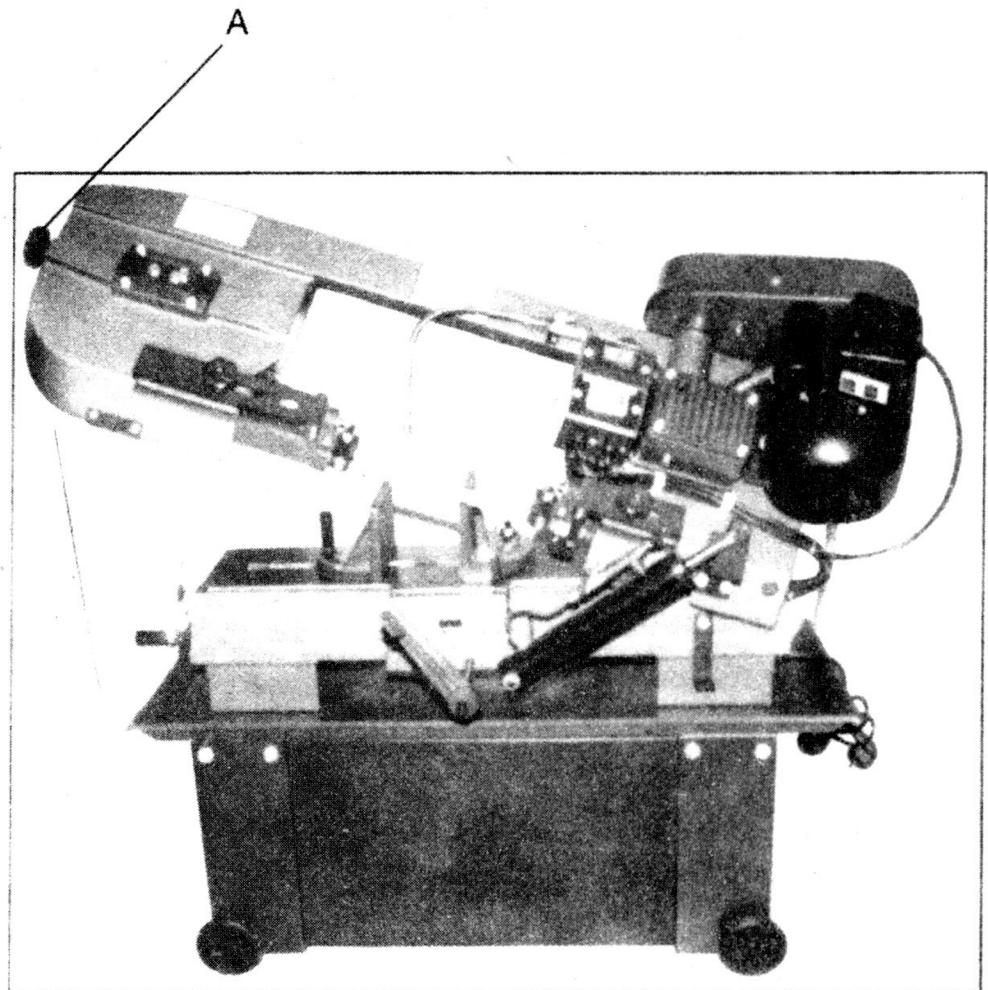

Fig.9
3. Turn blade tension knob (A, Fig.9) one and three quarter to two revolutions clockwise. This equals approximately 800kgs. of blade tension.